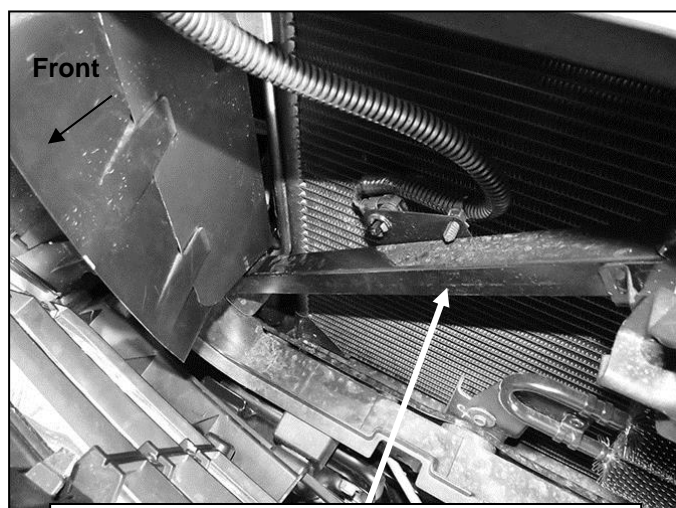

Fig 8) Passenger side square tube support between grille and radiator pictured
7. Locate the square tube support braces running up at an angle from the top of the frame channel to the bottom of the hood release mechanism, (**Figure 8**). Select the passenger side Inner Top Bracket and (1) "U" Backing Plate, (**Figure 9**). Hold the "U" Bracket up to and around the back of the square tube, (**Figure 10**). Bolt the Inner Top Bracket to the "U" Bracket with (2) 6mm x 25mm Hex Bolts, (2) 6mm Lock Washers and (2) 6mm Flat Washers, (**Figure 11**). Leave loose at this time.